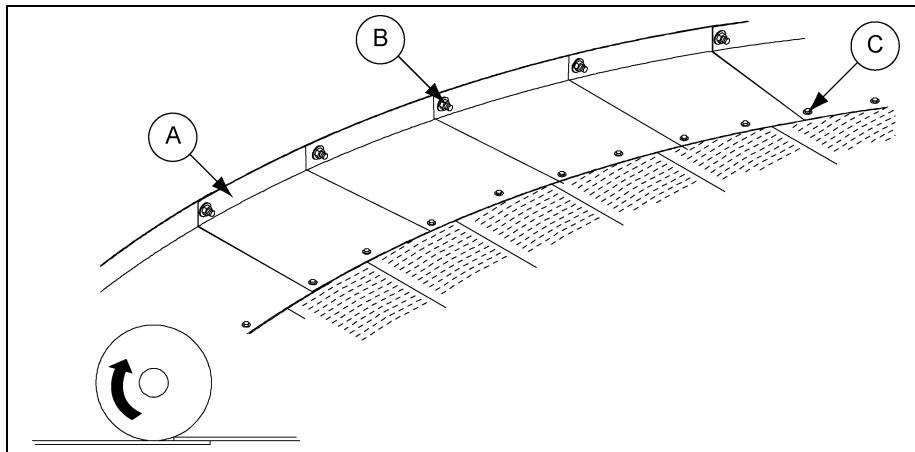

Figure 7A
If a bin sweep auger will be used, overlap flashing (D) so that the sweep will climb up on to the next flashing (D) section when rotating (usually clockwise). (See Figure 7A.) This will prevent the rotating/slipping outer wheel of the sweep from catching on the flashing edges. (All GSI power sweeps and carry-in sweeps manufactured after April 2002 run clockwise.)